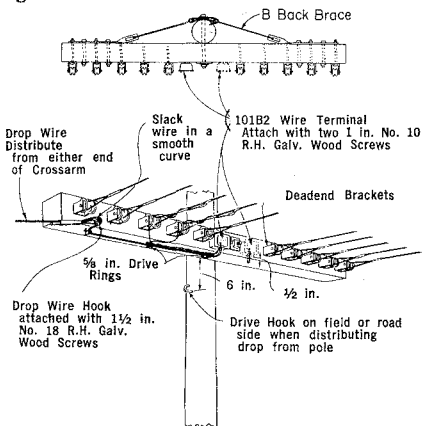

Fig. 5 — For Not More than Two Drops Use 101B Wire Terminals Placed on Line Wire Side of Crossarm
4.12 The wiring arrangement on DE crossarms equipped with back braces is illustrated in Fig. 5 and 6.